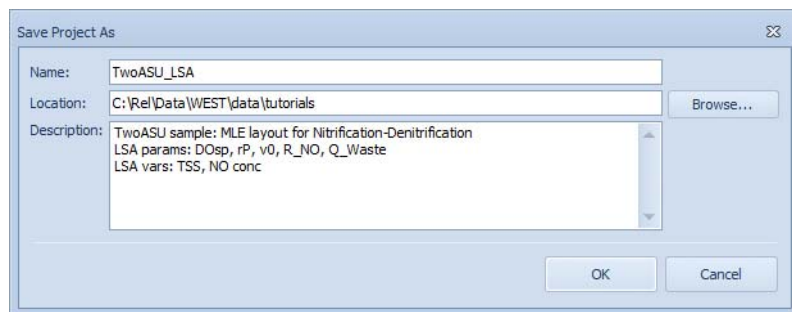

Figure 8.1 Save As dialogue, to use the TwoASU sample as the starting point for the Local Sensitivity Analysis example
- Provide a name and a description for the new Project (Figure 8.1)